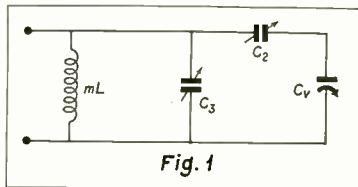
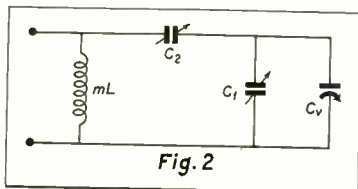
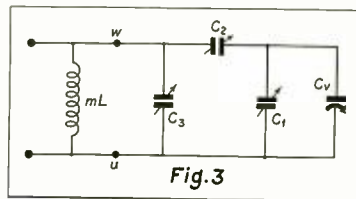

Fig. 1
Fig. 2
Fig. 3
Two widely used arrangements for superheterodyne oscillator circuits are those shown in Figs. 1 and 2, each having two fixed capacitors in addition to mL and C_v . A more general type of circuit is that shown in Fig. 3, wherein we have three fixed capacitors in combination with mL and C_v . It is readily seen that the circuits of
Fig. 1 and Fig. 2 are only special cases of the circuit in Fig. 3.
In an attempt to find another arrangement with one more "degree of freedom," let us take, for instance, the circuit of Fig. 1 and add a new series capacity, C_4 (Fig. 4a). This circuit seemingly differs from any of the preceding ones. In reality, however, we have not ob-
TYPICAL OSCILLATOR CIRCUIT; SPECIAL CASE OF FIG. 3 WITH $C_1 = 0$.
tained any new features because it is well known that the "star" formed by the capacities C_2 , C_3 and C_4 in Fig. 4a, is equivalent to the "delta" connection C_1' , C_2' and C_3' in Fig. 4b, which in turn is the same as Fig. 3. For the proof of this identity and for star-delta conversion formulas the reader is referred to the standard text books on transmission systems³.
Next, let us insert a second series capacity C_4 into the circuit of Fig. 3. We obtain Fig. 5a. The same star-delta conversion as before yields Fig. 5b, which is identical with Fig. 3.
Any other attempt will yield the same result. No matter how many fixed capacitors we insert into the network or at what places we put them, we find that the resulting circuit is still identical with that of Fig. 3. (This holds, of course, only as long as we do not add a
TYPICAL OSCILLATOR CIRCUIT; SPECIAL CASE OF FIG. 3 WITH $C_3 = 0$.
Hence, we have to consider only one fundamental circuit in our problem: the circuit shown in Fig. 3. This circuit covers any possible arrangement whereby only one fixed inductance and only one variable capacitor is used, the variable capacitor being ganged to and equal to the variable capacitor in the r-f circuit.
By C_{osc} we denote the total resulting capacity on the right-hand side of the terminals u-w in Fig. 3. m is a pure numeric; it indicates the ratio between the inductances in r-f and oscillator circuit.
OSCILLATOR CIRCUIT; GENERAL CASE, EQUIVALENT TO FIGS. 1 AND 2.
the capacity network shown in Fig. 3. This capacity can readily be computed. It is found
Equation (7) yields what values of C_{osc} may be attained in case a tracking circuit of the type drawn in Fig. 3 is used. Hence, equation (7) can be termed the "obtainable tracking curve."